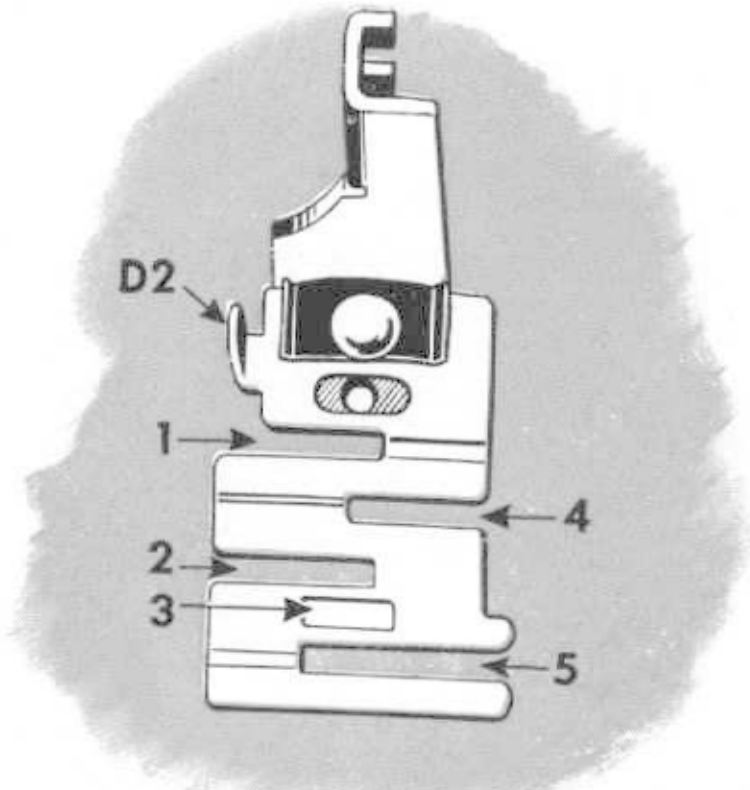

Fig. 52. The Edge Stitcher
Fasten this attachment to presser bar in place of presser foot. See that needle enters center of needle hole. The distance from line of stitching to edge of material in slots is regulated by moving lug **D2**, **Fig. 52** to right or left.
1. Insert one of laces in slot **1** of edge stitcher and the other in slot **4**, **Fig. 52**.
2. Insert piping with its folded edge to left in slot **3** and edge to be piped in slot **4**, **Fig. 52**.
1. Place garment under edge stitcher and tape in slot **1** or **4**, **Fig. 52**.
2. Insert the edge in slot **5**, **Fig. 52**, and adjust lug **D2** to stitch as close to the edge as desired.